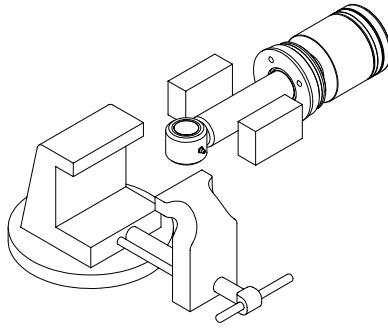

Figure 5-40, Piston Rod
4. Clamp the rod assembly in a soft jawed vise on the wrench flats, not on the rod surface. If the rod does not have wrench flats use two pieces of wood on both sides of the rod to prevent scaring. (Figure 5-40)
5. Remove the piston retaining nut and remove the piston. (Figure 5-40)